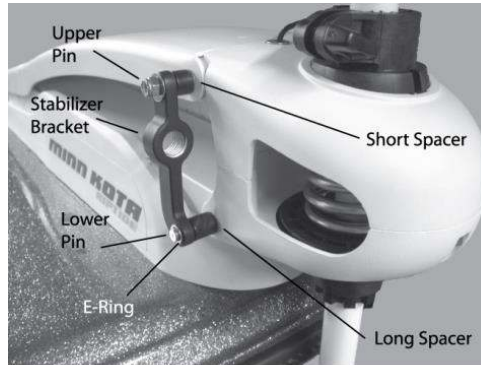

Fig. 1
7. Install the Stabilizer Bracket onto the Upper and Lower Pins as shown in Fig. 1.